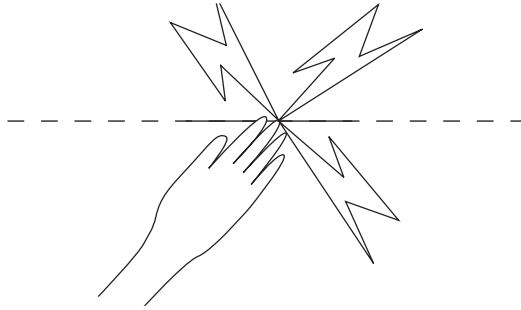

Figure 4 – Warning plate symbol
- i. The symbol of Figure 4, or